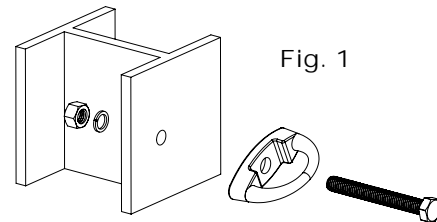

Fig. 1
3. Mount the D-Bolt Anchor by passing the approved 5/8" (16mm) stainless steel bolt through the hole in the connector and through the hole in the structure (see Fig. 1). Attach the lockwasher and nut. Completely tighten making sure the entire nut is engaged on the threads and the device is securely fastened to the structure. Torque to 125 ft. lbs. (169Nm).